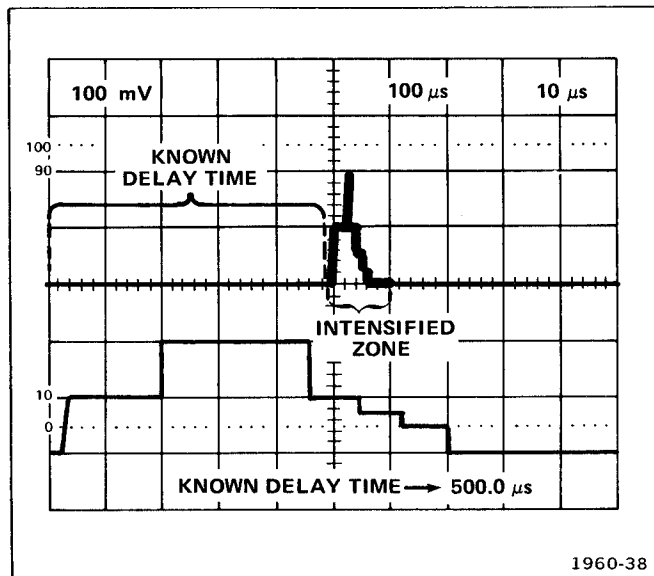

Fig. 1-12. Examining an event that occurs within a selected time interval after a known delay time in the delay-time mode.
b. Set the appropriate triggering, position, deflection-factor, and sweep-rate controls for the desired dual-trace display. See the example in Fig. 1-12.
d. Set the delayed (B) sweep rate (i.e., the intensified zone length) for the desired time interval after the delay time selected in part c. Multiply the delayed (B) sweep rate by 10 to determine the actual displayed delayed (B) sweep time interval. See the example in Fig. 1-12.